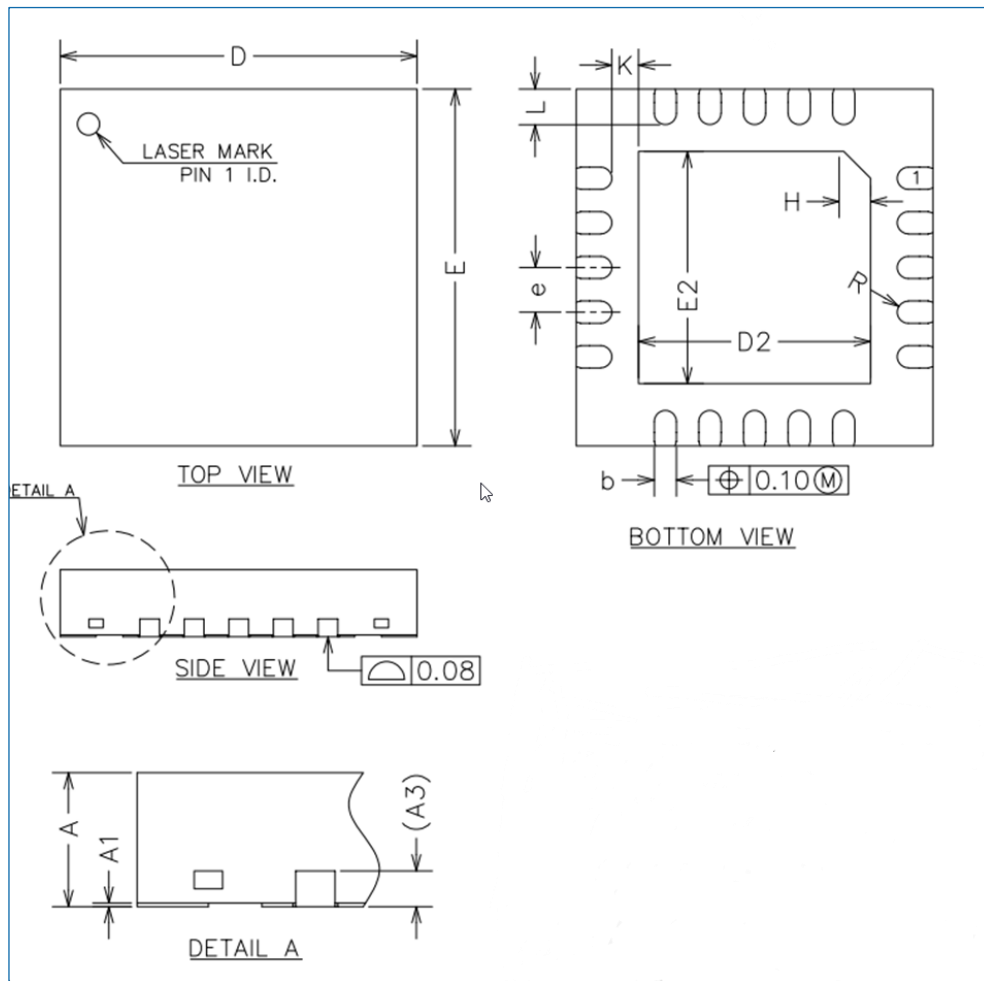

Figure 7-2 QFN20 package 2 outline
- 4 mm × 4 mm, 0.5 mm pitch package (as shown in Figure 7-2): HK32F030MF4U6